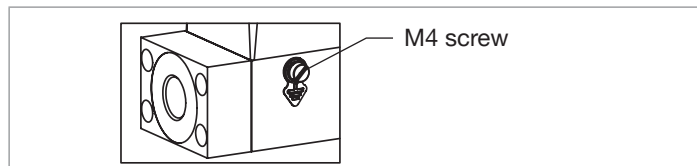

Fig. 23: Location of the M4 screw for the connection of the functional-earth cable
- With a flat screwdriver of size 6.5 mm, loosen the M4 screw. See Fig. 23.